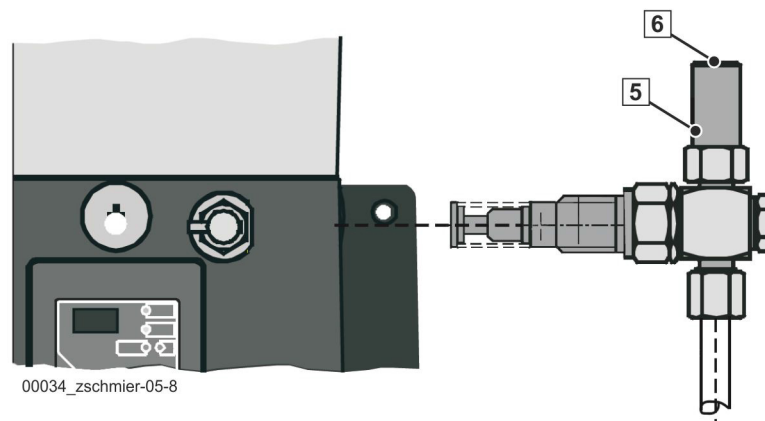

Fig. 236
A pressure relief valve (5) (**Fig. 236**) protects the entire lubrication system against excessive system pressures. It is mounted directly on the pump element.
If a clogged distributor or lubrication point causes an operating pressure of over 300 or 200 bar, the valve opens and grease will visibly emerge from the escape point (6) (**Fig. 236**).